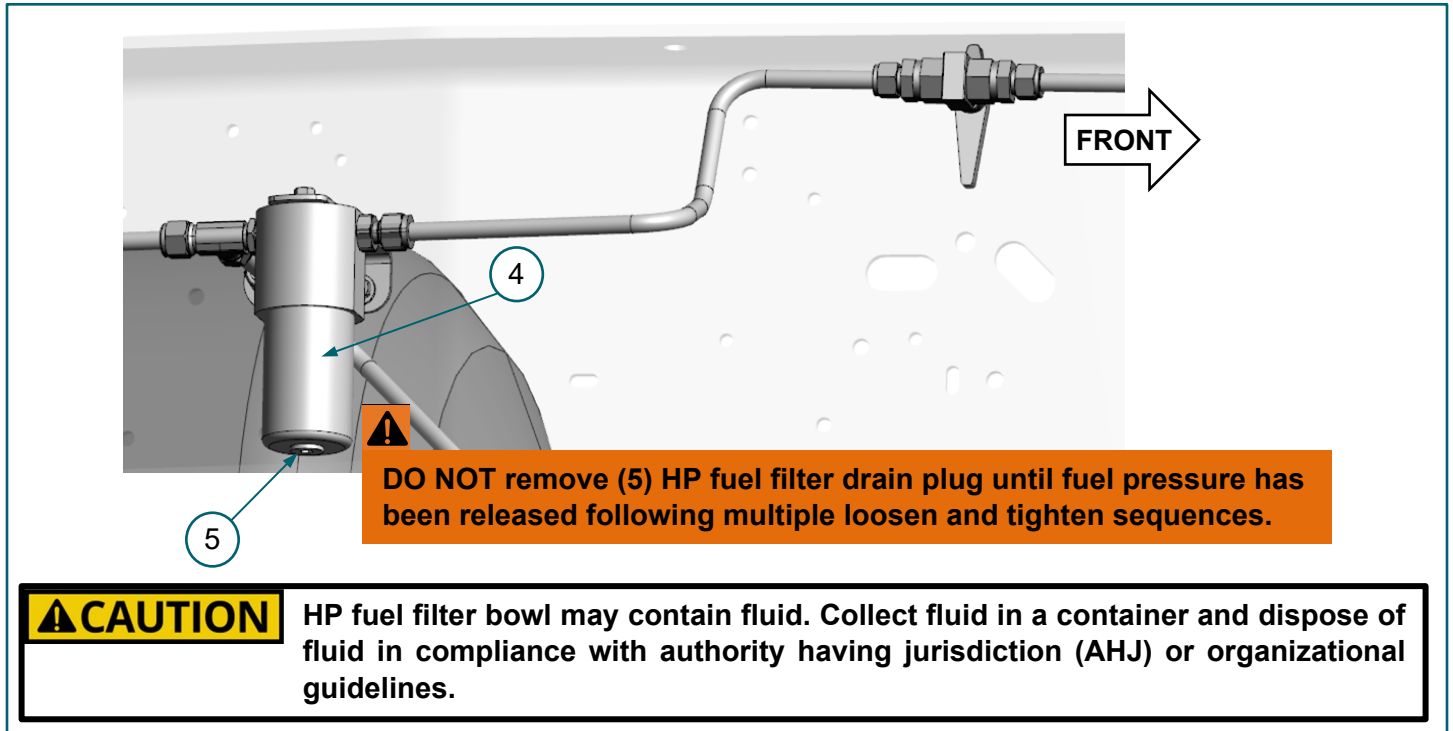

FIGURE 2-2. (4) HP fuel filter assembly, (5) drain plug
6. Purge remaining fuel pressure by using a 1/4-in Allen wrench to slowly loosen (4) high-pressure (HP) fuel filter (5) drain plug 1/2-turn to 3/4-turn and retighten drain plug. Repeat loosen-tighten sequence until sound of escaping fuel is heard. FIGURE 2-2